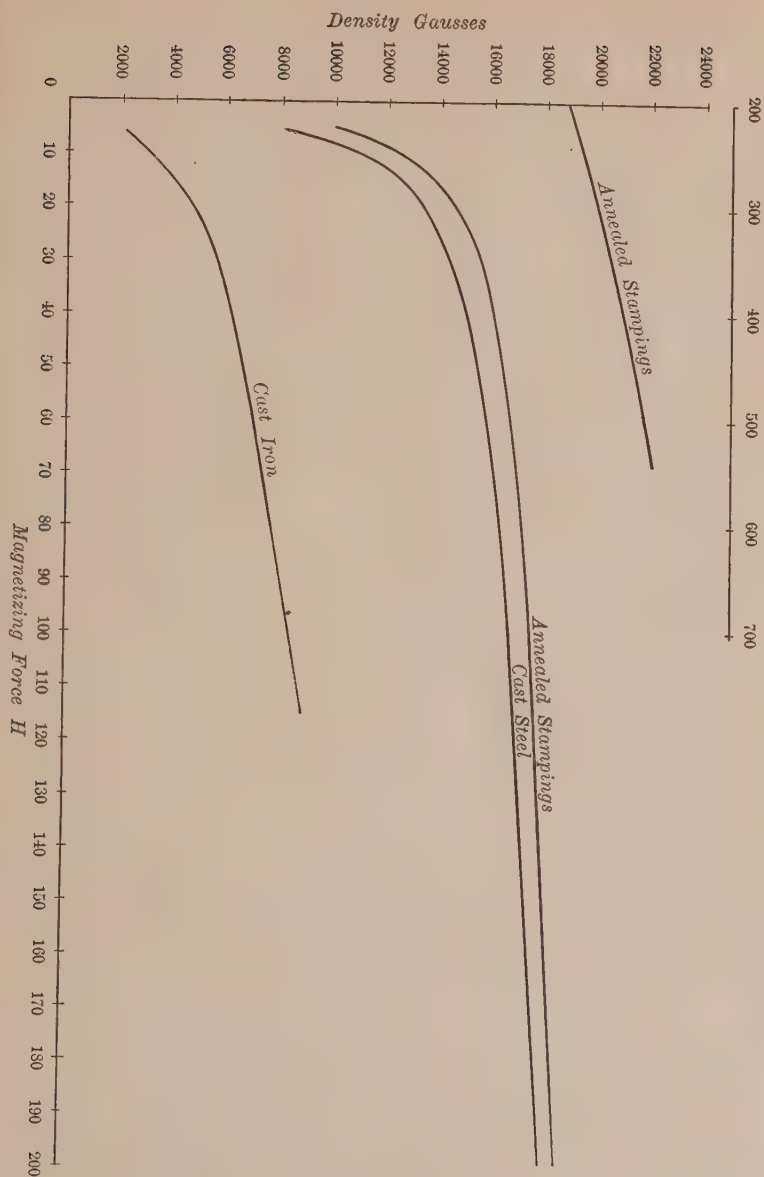

FIG. 31
2. The average length of the flux path through an armature core is 28 centimeters, and its cross section is 100 square centimeters. Selecting a value of  $H$  from the curve for stampings (Fig. 31) corresponding to the value of  $B$  for the flux of Problem 1, and remembering that only half the given length of path is to be considered as belonging to one pole, and that half the flux from a pole goes in each direction through the armature, calculate the ampere turns per pole required for the armature core.